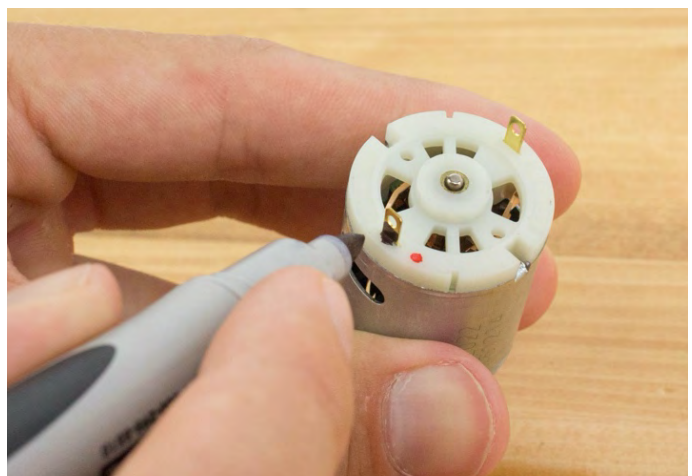

Figure 14
- ❑ Before taping, make a mark directly on the terminal that has a red dot by it using the permanent marker. (Figure 14) This is the positive side of the motor. The die cut sticker may cover the mark, so it is important to be able to correctly identify this terminal when attaching the wires to the motors later in this section.